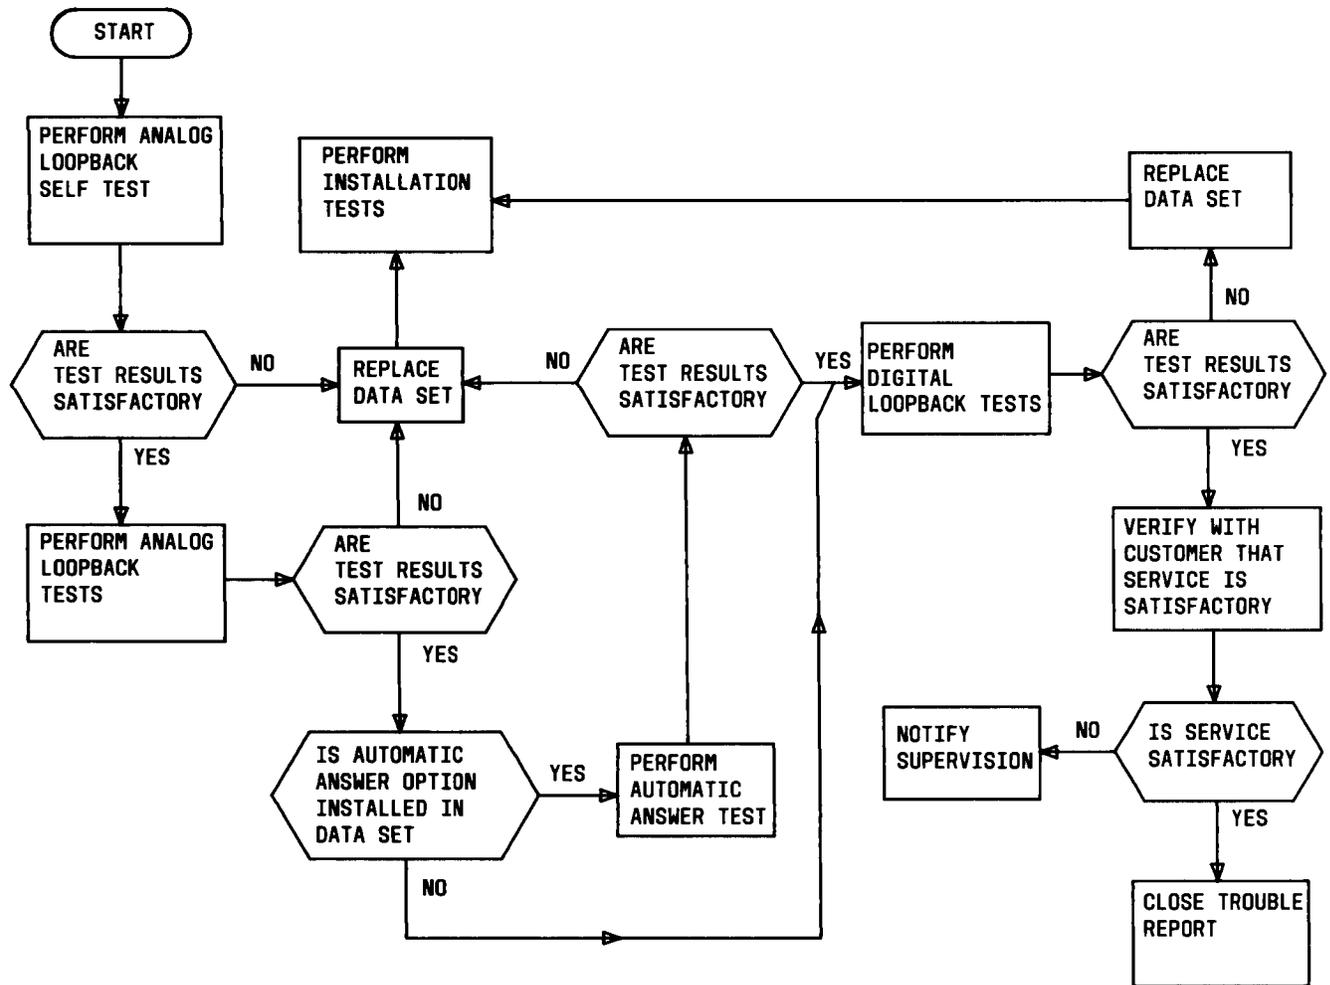

Fig. 4—Maintenance Test Sequence
3.04 Refer to Fig. 4 for the sequence in which tests are to be performed by the telco employee at the data station. If the data set is replaced, the defective data set should be tagged with a tag describing the nature of the trouble, carefully packed, and returned to a service center for repair. Verify that the replacement data set is equipped with the proper options before placing the data set in service.